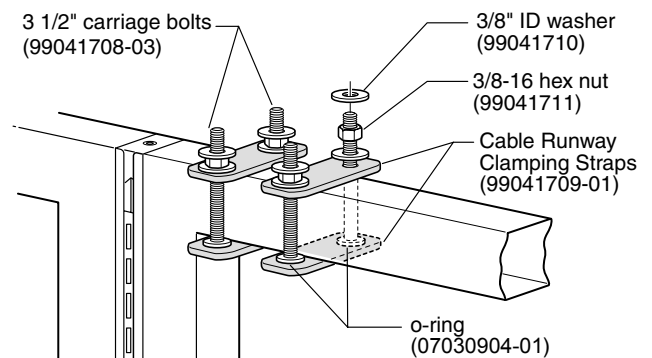

Figure 2
5. For 3" U-assembly Kits, place a 3/8" ID washer on top of each hex nut to support the Cable Runway Plate. (Figure 2)